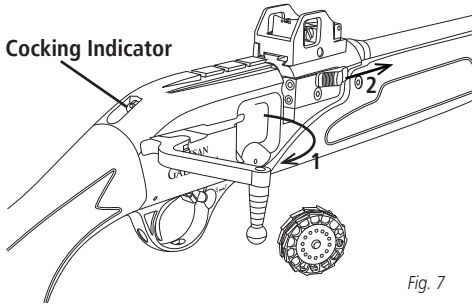
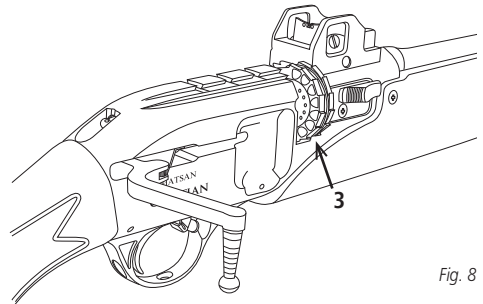

Fig. 7
Fig. 8
(Fig. 7). Here you will notice the red ring around the cocking indicator becomes visible, which shows the air rifle is cocked.
4. Push forward the magazine release bolt and lock it there. Insert the magazine into its slot the right. (Fig. 7 & Fig. 8)